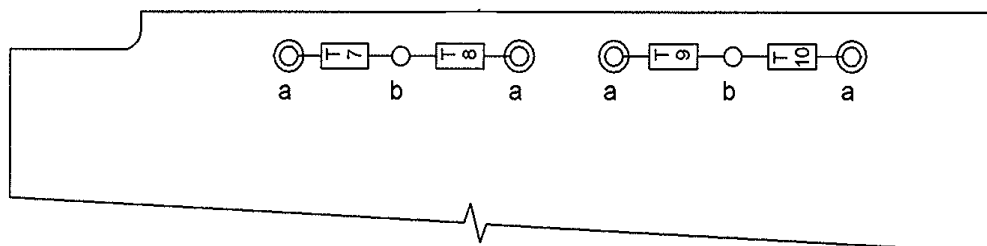

Figure 1 – Part View of Back Face of Rear Support (PNR: 001-LG-01-0820)
- (1) Refer to the LGCIU CMM, DISASSEMBLY page 301. (IPL Fig.1)
- (2) Remove OBRM and all PCBs (30, 35, 40, 45, 50 and 55). Use the instructions in the CMM DISASSEMBLY page 301.
- (3) Place the Microprocessor PCB (55) and Output PCB (45) aside as they will not be refitted.
- (4) Remove the left-hand side cover (Looking at the FRONT of unit). Use the instructions in the CMM DISASSEMBLY, page 301.
- (5) Remove the right-hand side cover (Looking at the FRONT of unit). Use the instructions in the CMM DISASSEMBLY, page 301.
- (6) Find the two bonding leads fitted to the Rear Panel (270). Remove M3 nut (285) and washer (295) and keep. Remove bonding leads from M3 screw (280).
- (7) Remove the three countersunk head M3 screws (150) securing the Power Supply Module (145) to the Power Supply and Filter Panel Assembly (135). Note: The top two countersunk screws (150) are secured by nut (155), lock washer (160) and plain washer (165).
- (8) Carefully support the Power Supply Module (145) and tag and identify all wiring soldered to the Power Supply Module. Unsolder all wiring attached to the Power Supply Module. (Note: The red multi-core wire is connected to the Power Supply Module terminal +28V and the black multi-core wire is connected to terminal 0V are from the Filter Panel Assembly. The remaining black single core wires are from the unit wiring loom).
- (9) Remove the Power Supply Module (145) from the Filter and Power Supply Assembly (135). Place the Power Supply Module aside as it will not be refitted.
- (10) Refer to Figure 1 below. Find Tranzorbs T7, T8, T9 and T10 (320) attached to the back face of the Rear Support Panel (235). Tag and identify location of all grey single core wiring soldered to the Tranzorbs and the single black multicore wire soldered the "T7B" terminal. Also make a note of the routing followed by each wire. Unsolder the grey single core wiring attached to the Tranzorbs and the black multicore wire attached to the "T7B" terminal. Also unsolder the black multicore bonding wire link between the "B" terminals and keep. (Note: The grey wires are a part of the unit wiring loom and the black multicore wire soldered to the "T7B" terminal is the earth bonding wire to the bonding tag on the structure of the Filter Panel Assembly, see paragraph 3. B. (17) below.
- (11) Remove the two countersunk head M3 screws (140) securing the Power Supply and Filter Assembly (135) to the Rear Support Assembly (235) and keep. Remove the Rear Support from the unit. Place the rear support aside as it will not be refitted.
- (12) Find ARINC connector Shell 1C. Remove wires from sockets 1 (Red), 2 (Black), 9 (Blue), 10 (Red) and 11 (Blue).
- (18) Untie all the Filter Panel assembly wiring from the unit wiring loom, taking note of the wiring routing and securing positions, sufficiently to allow the Filter Panel assembly to be removed from the unit. Remove the Filter Panel Assembly from the unit. Place the Filter Panel Assembly aside as it will not be refitted.
C. Re-assembly (IPL Fig.1)
- (1) Take new Rear Support Assembly (PNR: 001LG010820). Refer to Figure 1 above and the black multicore bonding wire link removed in Paragraph 3. B. (10) as a template. Using a 80 mm (3.15 inch.) length of black wire detailed in Paragraph 2. C. (2) (b), solder a bonding wire link between "B" terminals. Take the four new Tranzorb (PNR: 2826318608) and solder Tranzorbs in positions T7, T8, T9 and T10 to tags on back face of the Rear Support Panel. Bond the Tranzorb body to the Rear Support using adhesive sealant detailed in Paragraph 2. C. (2) (b). (Note: The adhesive is a damping mechanism between the Tranzorb body and panel. The Tranzorbs T7, T8, T9 and T10 are to be conformally coated using items detailed in Paragraph 2. C. (2) (b) above. Allow the adhesive sealant and conformal coating to dry in accordance with manufacturers instructions.